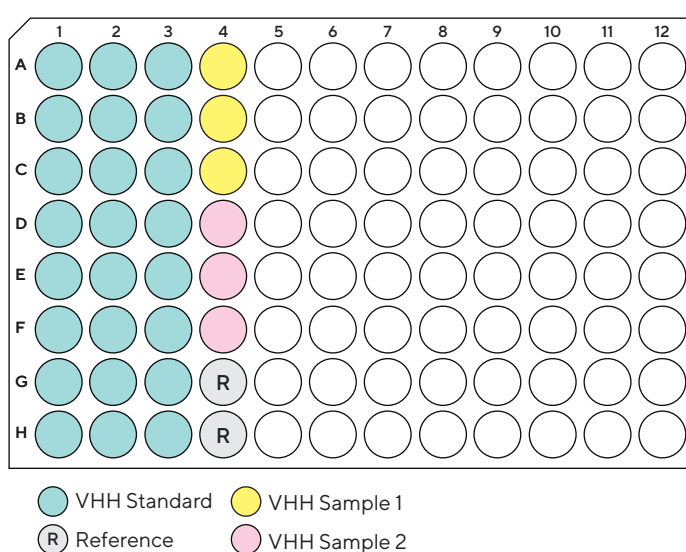

Figure 5. Example plate layout for a Spike Recovery Assay.
3. Transfer triplicates of the prepared standards and the samples to a sample plate. It is recommended to organize samples in columns, from A–H. Fill at least one well with blank diluted matrix for reference subtraction during data analysis. An example plate map is shown in Figure 5.